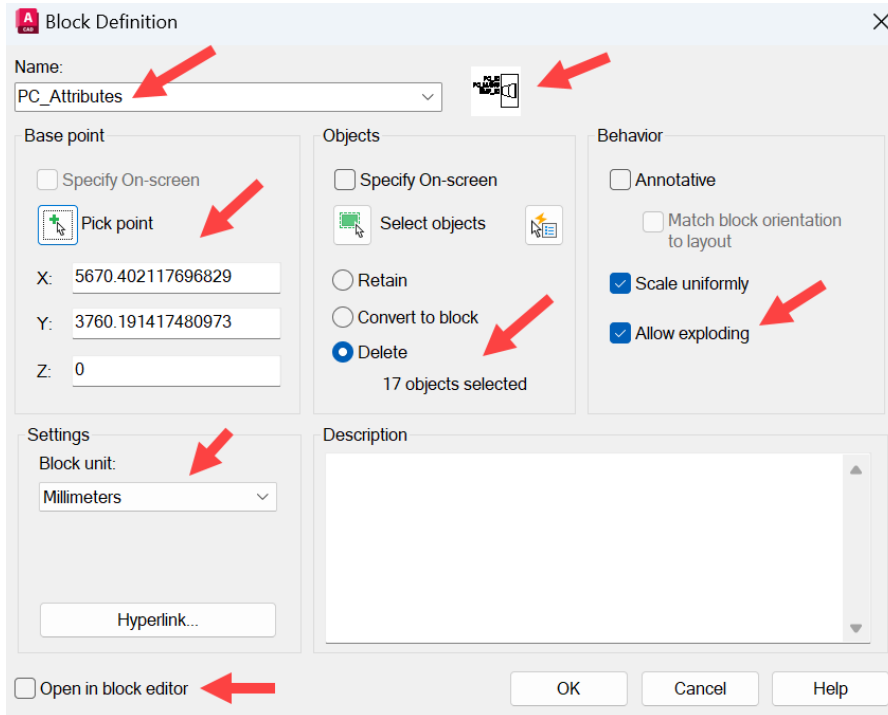

Figure 10.12: The Block Definition dialog box with settings
15. Note that the X and Y coordinates are now set (ignore the numbers), and make sure that all other settings are set as they are in the dialog box in *Figure 10.12*. The objects were already selected before you started the **Create Block (BLOCK)** command, so there will be 17 objects selected.